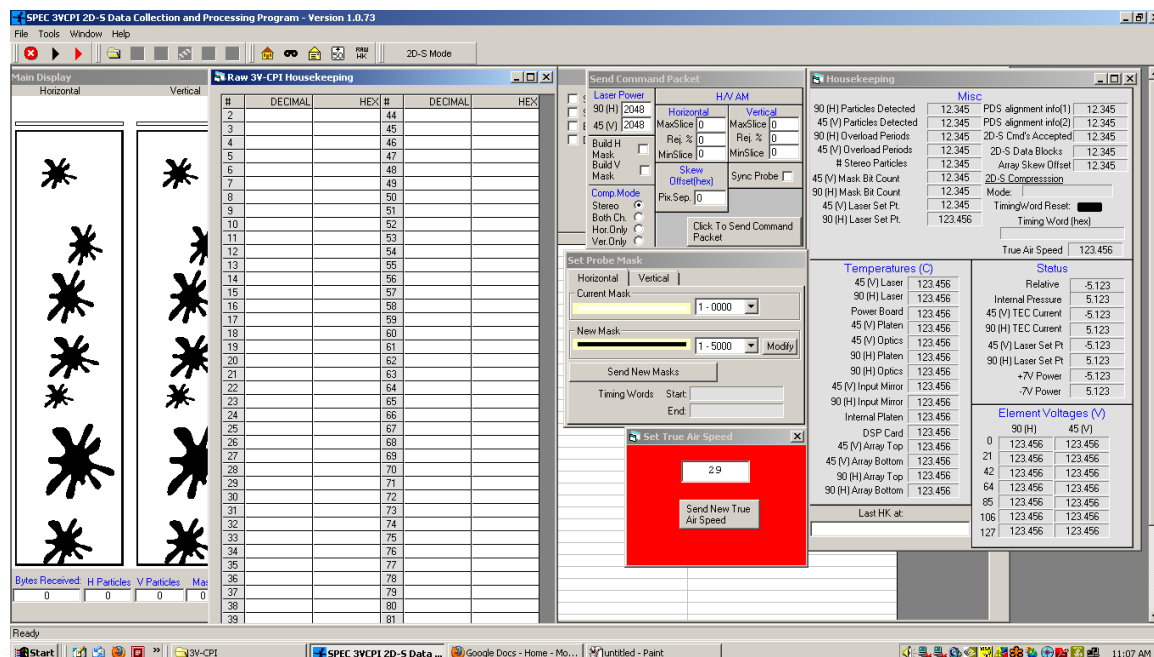

Figure 2.4.6 Startup screen for 2D-S GUI
9. To initialize the connection between 2D-S GUI and the probe, click the red arrow in the top left corner of its Display Window, **Figure 2.4.6**.